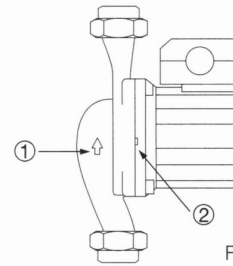

Fig. 2
- Direction of fluid flow must correspond with the arrow on the pump housing (Fig. 2, pos. 1).